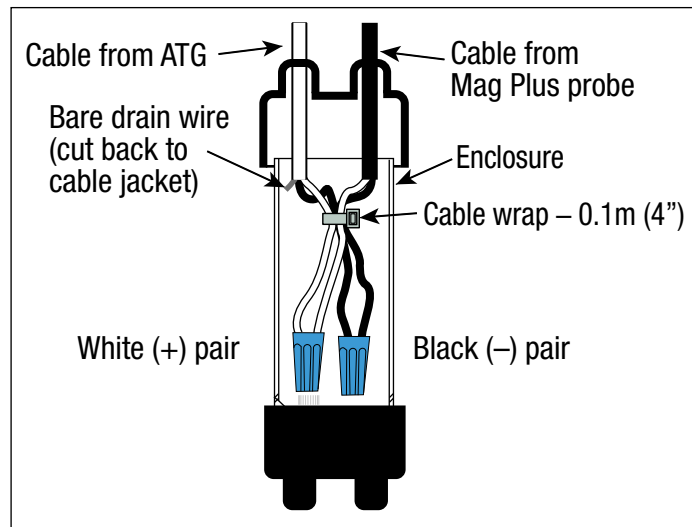

Figure 20. Splice Connections
3. Make the connections using wire nuts [Figure 20]. Cut off the bare shield wire at the cable jacket.
4. Use the 0.1m [4"] cable wrap to hold the cables together (see Figure 20).